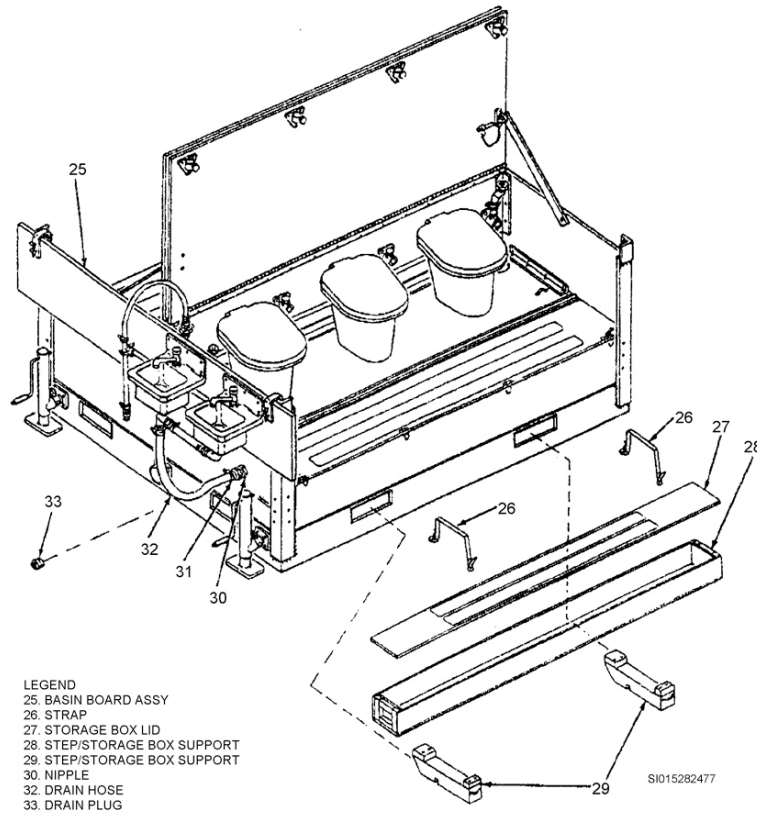

Figure 2-36. Step boxes.
2. Pull out the two step/boxes (fig. 2-36, callouts 26-29) from the front and rear of the unit, and secure them with leveling blocks and straps.
4. Figure 2-37 details how to install the upper and lower curtain support tubes and slide privacy curtains on the tubes. Be sure to remove any slack from the curtains by pushing up on the upper curtain support tube assemblies (fig. 2-36, callouts 37 and 38) and tightening the knobs. Finally, install the vent tube to the floor of the latrine unit.